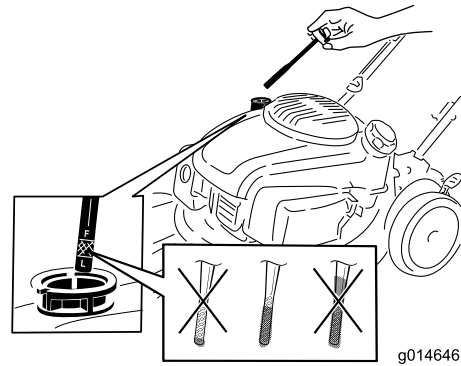

Figure 17
2. Remove the dipstick (Figure 17).
4. **Slowly** pour oil into the oil-fill tube until the oil level reaches the Full line on the dipstick (Figure 17). **Do not overfill.** (Max. fill: 0.65 L (22 oz), type: 10W-30 or SAE 30 detergent oil with an API service classification of SJ or higher.)